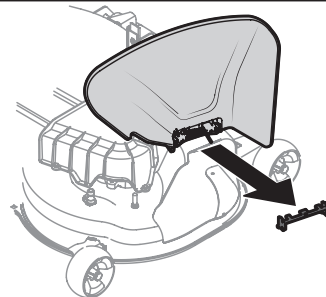

Figure 4
1. Check the tractor deck for a shipping brace that may be holding the chute deflector upward for shipment. If the brace is present, it must be removed before operating the tractor. Holding the chute deflector fully upward, remove the shipping brace. Lower the chute deflector and discard the shipping brace. See Figure 4.